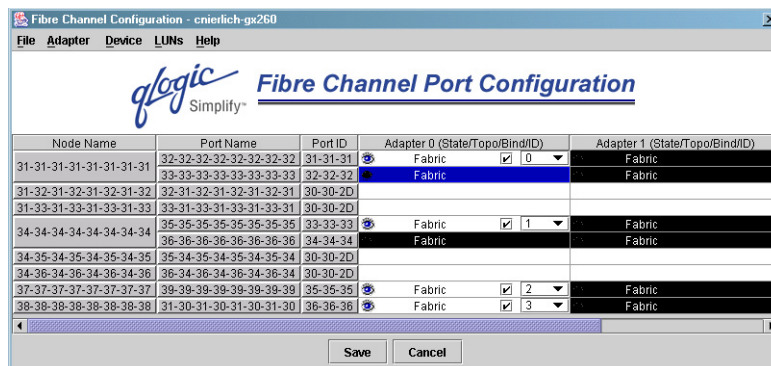

Figure 7-4. Fibre Channel Port Configuration Dialog Box
1. From the **Fibre Channel Port Configuration** dialog box, click in the cell in the Device Node Name column. For example, in figure 7-4 you could click device node name 34-34-34-34-34-34-34-34.